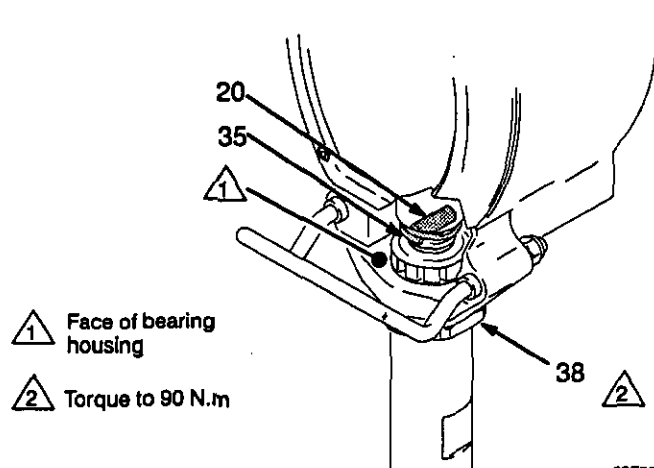

Fig. 34
- d. Remove the connecting rod pin (20) only. Refer to Fig. 34 on page 32.